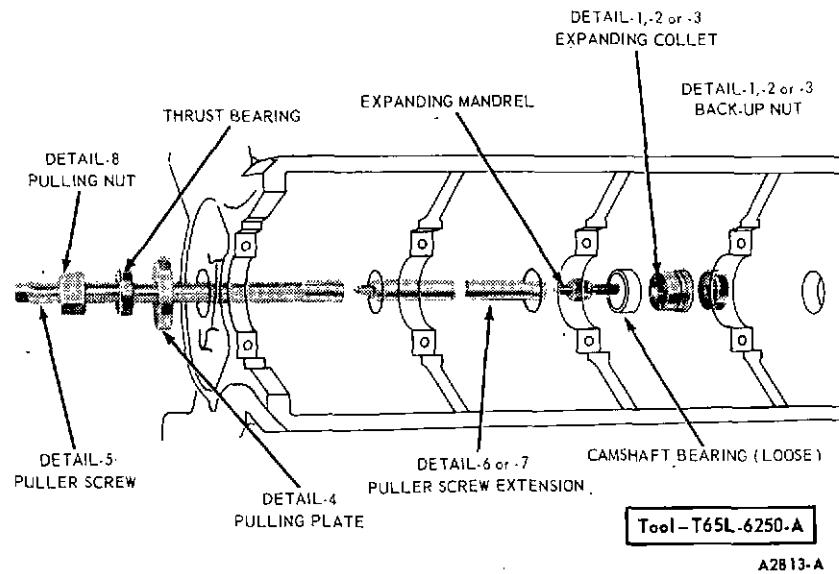

FIG. 58 Replacing Camshaft Bearing
2. Remove the camshaft rear bearing bore plug. Remove camshaft bearings (Figure 58).
2. Assemble the puller screw and extension (if necessary) as shown in Figure 58 and install on expanding mandrel. Wrap a cloth around threads of the puller screw to protect the front bearing or journal. Tighten pulling nut against the thrust bearing and pulling plate to remove camshaft bearing. Hold a wrench on the end of puller screw to prevent it from turning.
4. Position new bearings at bearing bores, and press in place with the tool shown in Figure 58. Be sure to center the pulling plate and puller screw to avoid bearing damage.